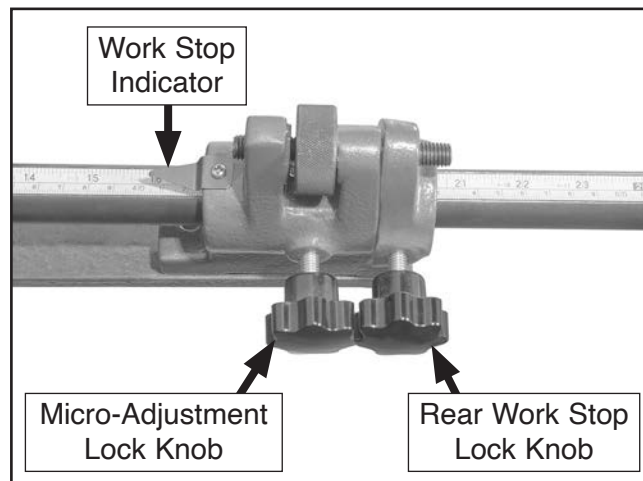

Figure 16. Rear work stop assembly components.
10. Align each work stop indicator to the same number on rod scales, then tighten micro-adjustment lock knobs and rear work stop lock knobs (see **Figure 16**).